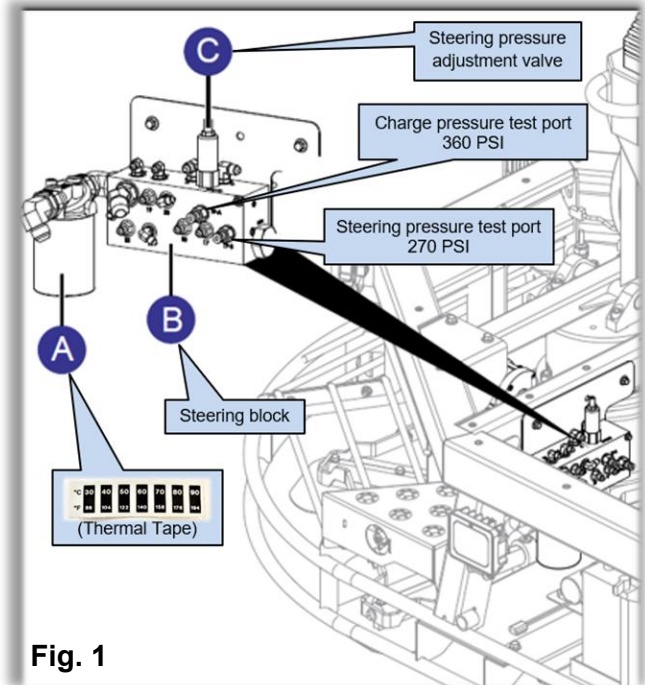

Fig. 1
The location for checking the steering pressure and adjusting if needed is at the Steering Block test port, Ref. Fig. 1. Access to the steering block test port is from the front of the trowel below the platform, under foot peddle. **Note:** A charge pressure test must be done prior performing a steering pressure test and is done at the steering block as well.
2. Trowel switched off; use a Parker PD242 (MQ part #PD242) diagnostic test port coupler to connect to the steering block's steering pressure test port with a 300~600 PSI pressure test gauge, Ref. Fig. 1.
4. Start the engine; allow the hydraulic system to warm up to 140°F. **Note:** MQ PN#45531 DECAL TEMP IND 86FTO 194F (Thermal Tape) is installed on the original hydraulic filter from factory, Ref. Fig. 1.
The location for checking the charge pressure is at the Steering Block charge pressure test port, Ref. Fig. 1. Access to the steering block diagnostic port is from the front of the trowel below the platform, under foot peddle.
3. Start the engine; allow the hydraulic system to warm up to 140°F. **Note:** MQ PN#45531 DECAL TEMP IND 86FTO 194F (Thermal Tape) is installed on the original hydraulic filter from factory, Ref. Fig. 1.